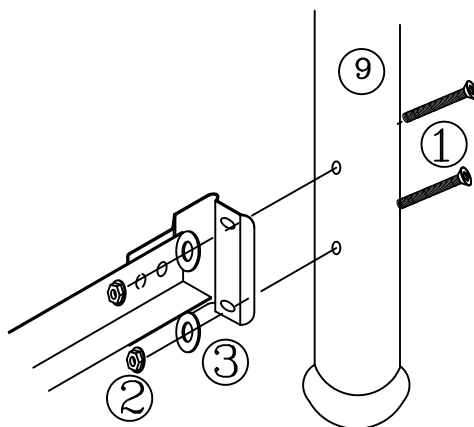

FIGURE 4
- Place 2 screws (1) through holes located in post (9). (See Figure 4)
- Place a flat washer (3) first and then a nut (2) on each screw. Hand-tighten, DO NOT TIGHTEN screws all the way.
- Tighten all screws securely using the Allen wrench (5).